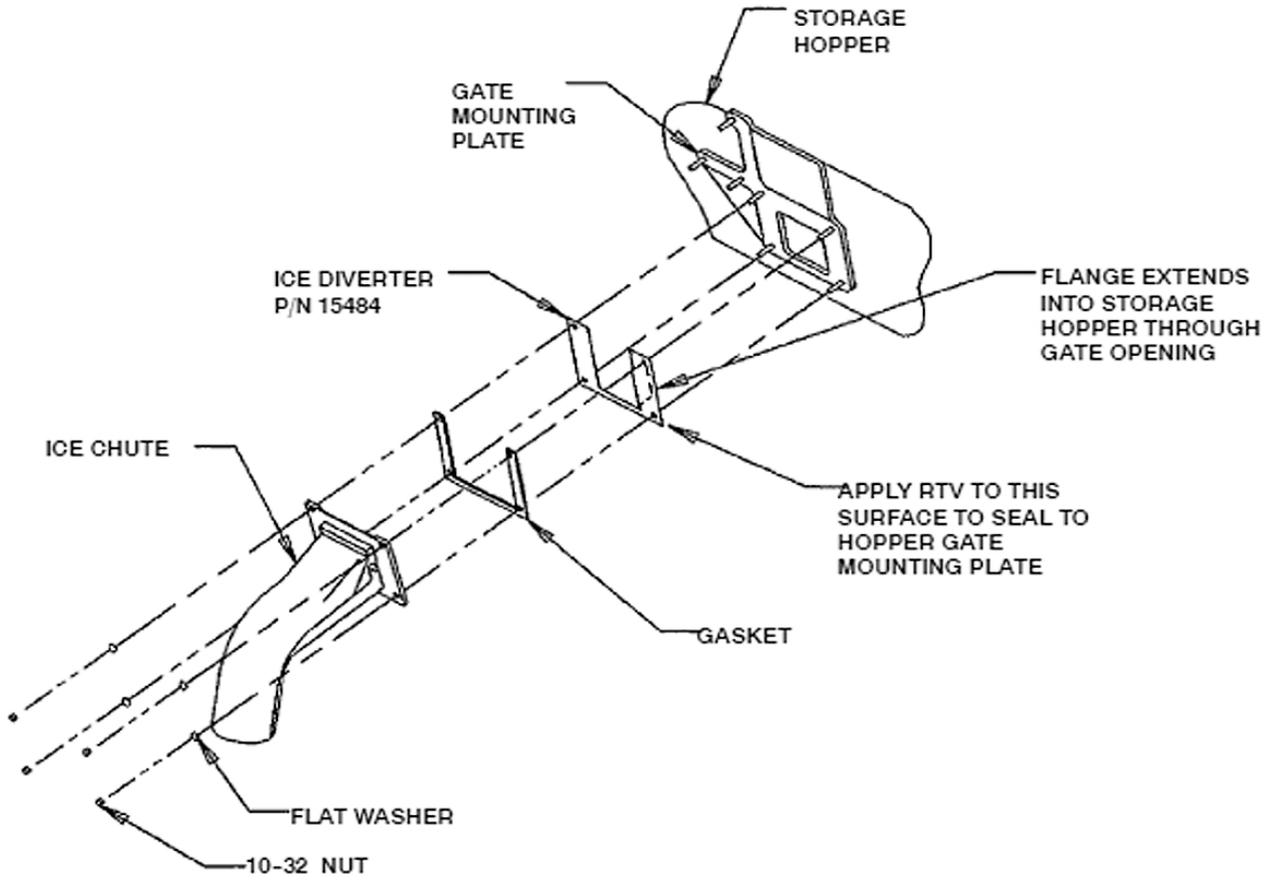

Figure 4.
2. Refer to Figure 4 for the following: